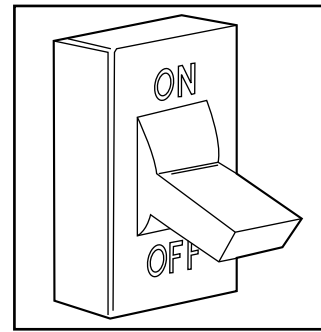

Fig. 9 - Turn Off Electrical Supply
3. Turn OFF electrical supply to the furnace. See Fig. 9.